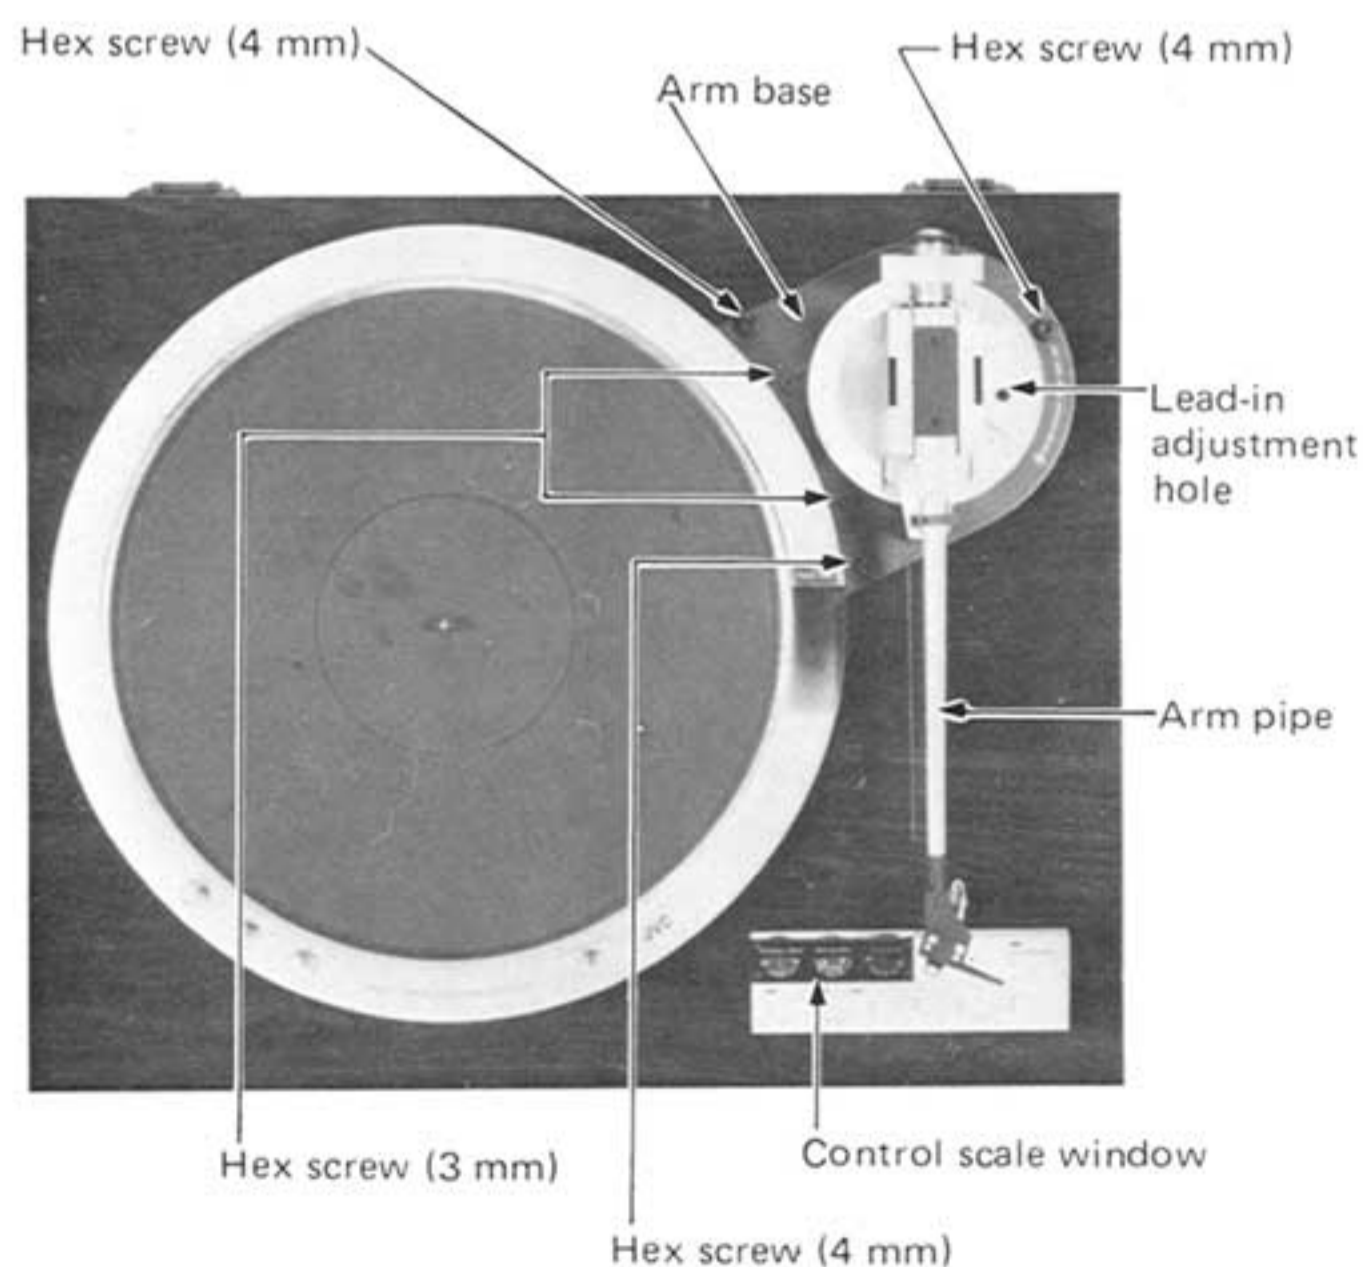

Fig. 19
(Figs. 19 and 20)
## 8-(6) Removal of control panel section (Figs. 19 and 22)
## 8-(7) Removal of LEDs on control panel section (Figs. 19 and 22)